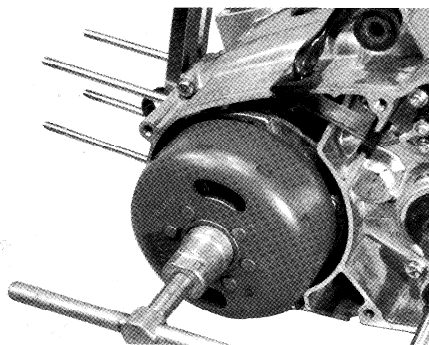

Fig. 5-4-3
3. Place a piston holder (special tool 09910-20115) between the con. Rod small end and the crankcase to prevent the crankshaft from turning, and then remove the flywheel rotor nut with a 17 mm wrench. To remove the flywheel rotor from the crankshaft, screw the flywheel rotor remover (special tool 09930-30113) counterclockwise into the center hole of the flywheel rotor. Next holding the flat part of the tool with a 17 mm wrench, turn the center bolt clockwise with a 17 mm wrench. (Fig. 5-4-3)